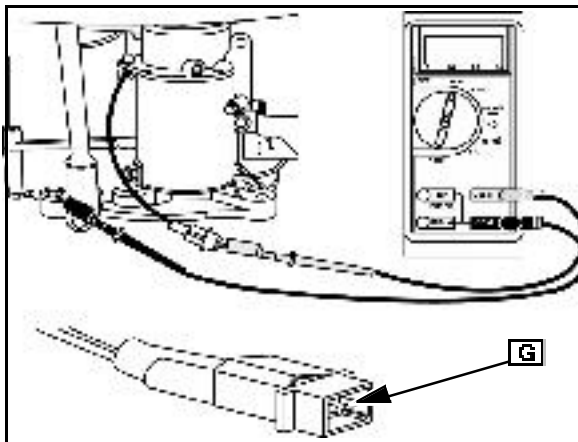
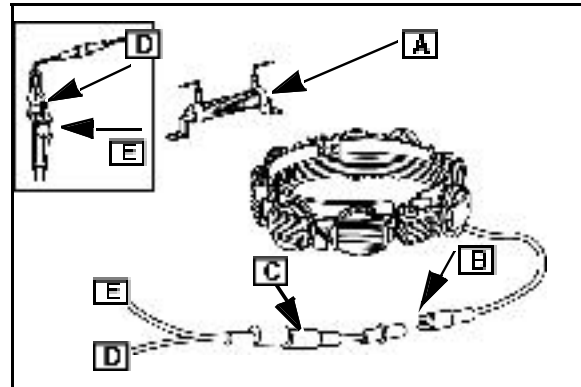

Fig. 29
Fig. 30
2. Attach RED test lead clip to AC output terminal ([G] Fig. 29).
The tri-circuit alternator provides AC through a single output lead and connector ([B] Fig. 29) to a wiring harness containing two diodes ([C]). One diode rectifies the AC to 5 amps negative (-) DC for lights ([D]). The second diode rectifies the AC to 5 amps positive (+) DC for battery charging and external loads ([E] Fig. 30).